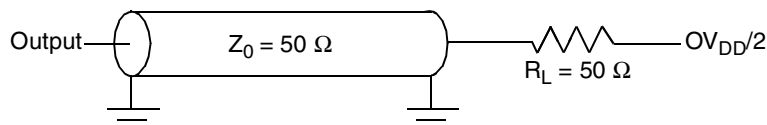

Figure 7. Alternate AC Test Load for the JTAG Interface
- All outputs are measured from the midpoint voltage of the falling/rising edge of TCLK to the midpoint of the signal in question. The output timings are measured at the pins. All output timings assume a purely resistive 50- Ω load (see Figure 7). Time-of-flight delays must be added for trace lengths, vias, and connectors in the system.
Figure 7 provides the AC test load for TDO and the boundary-scan outputs of the MPC7447A.